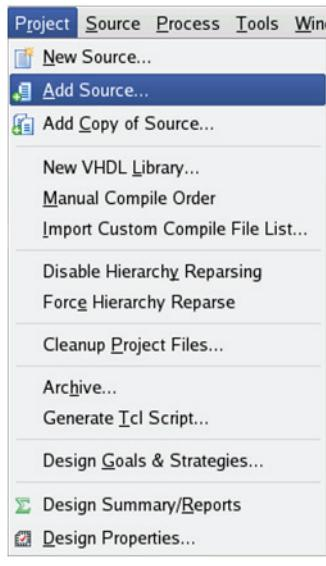

Figure 77: Adding Source Files to Project Navigator
72. Click **Project > Add Source** to add the source code for the axi\_lite masters to the system (Figure 77).